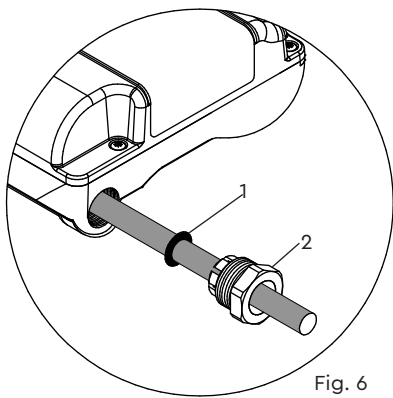

Fig. 6
To enable correct assembly of the cable gland the 'O'-ring (Fig. 6 item 1) must be placed over the cable before the clamping insert (Fig. 6 item 2) can be tightened.